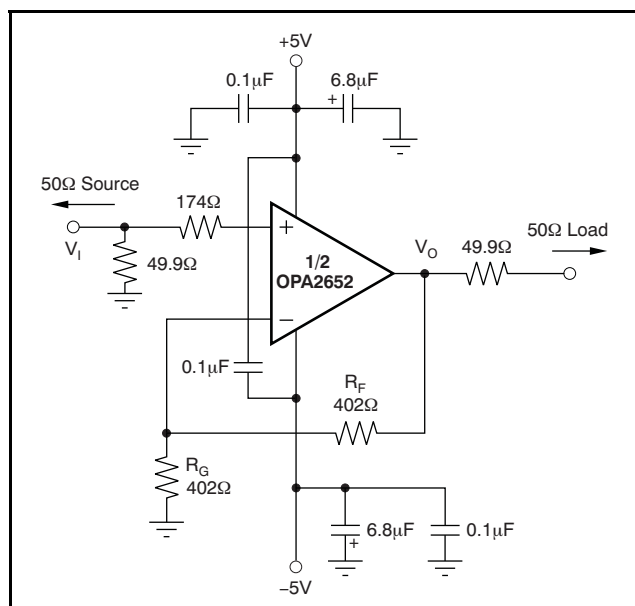
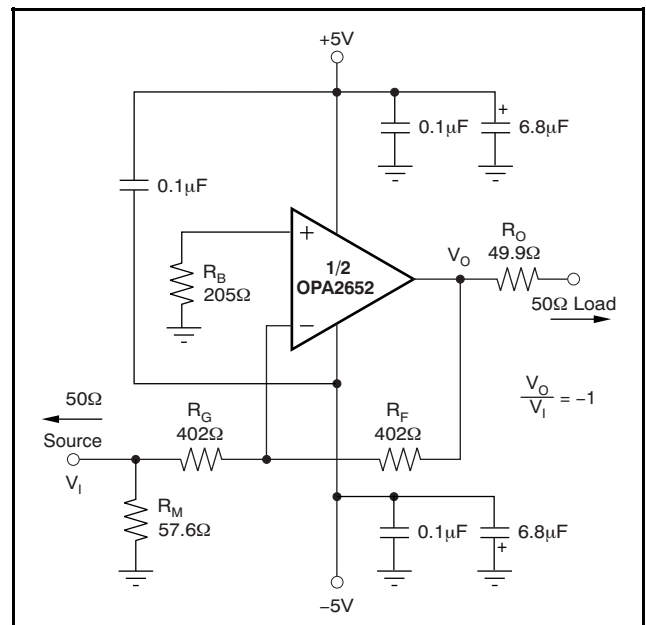

Figure 28. DC-Coupled, G = +2, Bipolar Supply, Specification and Test Circuit
Figure 29. DC-Coupled, G = -1, Bipolar Supply, Specification and Test Circuit
At  $T_A = +25^\circ\text{C}$ ,  $G = +2$ ,  $R_F = 402\Omega$ , and  $R_L = 100\Omega$ , unless otherwise noted. See Figure 28 and Figure 29 for AC performance only.
At  $T_A = +25^\circ C$ ,  $G = +2$ ,  $R_F = 402\Omega$ , and  $R_L = 100\Omega$ , unless otherwise noted. See Figure 28 and Figure 29.
Figure 28 shows the DC-coupled, gain of +2, dual power-supply circuit configuration used as the basis of the  $\pm 5\text{V}$  specifications and typical characteristics. This configuration is for one channel. The other channel is connected similarly. For test purposes, the input impedance is set to  $50\Omega$  with a resistor to ground and the output impedance is set to  $50\Omega$  with a series output resistor.
Voltage swings reported in the specifications are taken directly at the input and output pins, while output powers (dBm) are at the matched  $50\Omega$  load. For the circuit of Figure 28, the total effective load will be  $100\Omega \parallel 804\Omega$ . Two optional components are included in Figure 28.
Figure 29 shows the DC-coupled, gain of -1, bipolar supply circuit configuration that is the basis of the specifications and typical characteristics at  $G = -1$ . The input impedance matching resistor ( $57.6\Omega$ ) used for testing gives a  $50\Omega$  input load. A resistor ( $205\Omega$ ) connects the noninverting input to ground. This configuration provides the DC source resistance matching to cancel outputs errors arising from input bias current.
A good rule of thumb is to target the parallel combination of  $R_F$  and  $R_G$  (see Figure 28) to be less than approximately 300Ω. The combined impedance  $R_F \parallel R_G$  interacts with the inverting input capacitance, placing an additional pole in the feedback network, and thus a zero in the forward response. Assuming a 2pF total parasitic on the inverting node, holding  $R_F \parallel R_G < 300\Omega$  keeps this pole above 250MHz. By itself, this constraint implies that the feedback resistor  $R_F$  can increase to several kΩ at high gains. This increase is acceptable as long as the pole formed by  $R_F$  and any parasitic capacitance appearing in parallel is kept out of the frequency range of interest.
Voltage feedback op amps exhibit decreasing closed-loop bandwidth as the signal gain is increased. In theory, this relationship is described by the Gain Bandwidth Product (GBP) shown in the specifications. Ideally, dividing GBP by the noninverting signal gain (also called the Noise Gain, or NG) predicts the closed-loop bandwidth. In practice, this prediction only holds true when the phase margin approaches 90°, as it does in high gain configurations. At low gains (increased feedback factor), most amplifiers exhibit a wider bandwidth and lower phase margin. The OPA2652 is compensated to give a flat response in a noninverting gain of 1 (see Figure 28). This configuration results in a typical gain of +1 bandwidth of 700MHz, far exceeding that predicted by dividing the 200MHz GBP by  $NG = 1$ . Increasing the gain
Because the OPA2652 is a general-purpose, wideband voltage feedback op amp, all of the familiar op amp application circuits are available to the designer. Inverting operation is one of the more common requirements and offers several performance benefits. Figure 29 shows a typical inverting configuration.
In the inverting configuration, three key design considerations must be noted. First, the gain resistor ( $R_G$ ) becomes part of the signal channel input impedance. If input impedance matching is desired (which is beneficial whenever the signal is coupled through a cable, twisted pair, long PCB trace or other transmission line conductor),  $R_G$  may be set equal to the required termination value and  $R_F$  adjusted to give the desired gain. This approach is the simplest, and results in optimum bandwidth and noise performance. However, at low inverting gains, the resulting feedback resistor value can present a significant load to the amplifier output. For an inverting gain of  $-1$ , setting  $R_G$  to 50Ω for input matching eliminates the need for  $R_M$  but requires a 50Ω feedback resistor. This configuration has the interesting advantage that the noise gain becomes equal to 2 for a 50Ω source impedance—the same as the noninverting circuits considered above. However, the amplifier output now sees the 50Ω feedback resistor in parallel with the external load. In general, the feedback resistor should be limited to the 200Ω to 1.5kΩ range. In this case, it is preferable to increase both the  $R_F$  and  $R_G$  values as shown in Figure 29, and then achieve the input matching impedance with a third resistor ( $R_M$ ) to ground. The total input impedance becomes the parallel combination of  $R_G$  and  $R_M$ .
The second major consideration, touched on in the previous paragraph, is that the signal source impedance becomes part of the noise gain equation and influences the bandwidth. For the example in Figure 29, the  $R_M$  value combines in parallel with the external 50Ω source impedance, yielding an effective driving impedance of  $50\Omega \parallel 57.6\Omega = 26.8\Omega$ . This impedance is added in series with  $R_G$  for calculating the noise gain (NG). The resulting NG is 1.94 for Figure 29 (an ideal source would cause  $NG = 2.00$ ).
error, as a result of the input bias currents, is reduced to (Input Offset Current)  $\bullet$   $R_F$ . If the 50 $\Omega$  source impedance is DC-coupled in Figure 29, the total resistance to ground on the inverting input will be 429 $\Omega$ . Combining this in parallel with the feedback resistor gives 208 $\Omega$ , which is close to the  $R_B = 205\Omega$  used in Figure 29. To reduce the additional high-frequency noise introduced by this resistor, it is sometimes bypassed with a capacitor. As long as  $R_B < 300\Omega$ , the capacitor is not required since its total noise contribution is much less than that of the op amp input noise voltage.
The OPA2652 provides good distortion performance into a 100 $\Omega$  load on  $\pm 5V$  supplies. Increasing the load impedance improves distortion directly. Remember that the total load includes the feedback network; in the noninverting configuration (Figure 28), this is sum of  $R_F + R_G$ , while in the inverting configuration, it is only  $R_F$ . Also, providing an additional supply decoupling capacitor (0.1 $\mu F$ ) between the supply pins (for bipolar operation) improves the 2nd-order distortion slightly (3dB to 6dB).
Evaluating these two equations for the OPA2652 circuit and component values shown in Figure 28 gives a total output spot noise voltage of  $17\text{nV}/\sqrt{\text{Hz}}$  and a total equivalent input spot noise voltage of  $8.4\text{nV}/\sqrt{\text{Hz}}$ . This noise includes the noise added by the bias current cancellation resistor ( $205\Omega$ ) on the noninverting input. This total input-referred spot noise voltage is only slightly higher than the  $8\text{nV}/\sqrt{\text{Hz}}$  specification for the op amp voltage noise alone. This result will be the case as long as the impedances appearing at each op amp input are limited to the previously recommend maximum value of  $300\Omega$ . Keeping both  $(R_F \parallel R_G)$  and the noninverting input source impedance less than  $300\Omega$  satisfies both noise and frequency response flatness considerations. Since the resistor-induced noise is relatively negligible, additional capacitive decoupling across the bias current cancellation resistor ( $R_B$ ) for the inverting op amp configuration of Figure 29 is not required.
The balanced input stage of a wideband voltage feedback op amp allows good output DC accuracy in a wide variety of applications. Although the high-speed input stage does require relatively high input bias current (typically  $4\mu\text{A}$  out of each input terminal), the close matching between them may be used to significantly reduce the output DC error caused by this current. This reduction is done by matching the DC source resistances appearing at the two inputs. This matching reduces the output DC error resulting from the input bias currents to the offset current times the feedback resistor. Evaluating the configuration of Figure 28, using worst-case  $+25^\circ\text{C}$  input offset voltage and current specifications, gives a worst-case output offset voltage equal to:
As an example, compute the maximum  $T_J$  using an OPA2652E (SOT23-8 package) in the circuit of Figure 28 operating at the maximum specified ambient temperature of  $+85^{\circ}\text{C}$  and with both outputs driving  $2.5V_{DC}$  into a grounded  $100\Omega$  load.